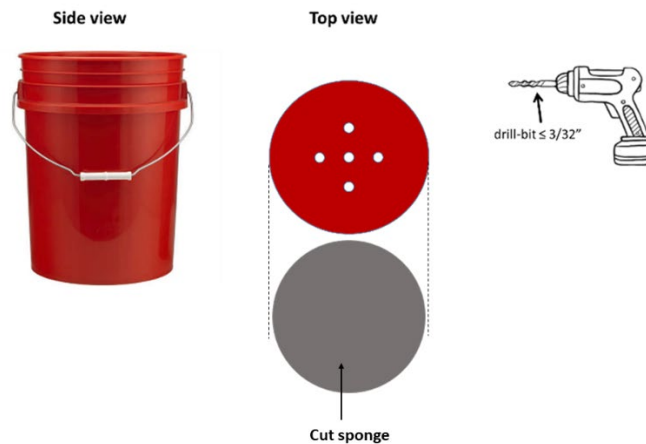

Figure 2. Making five holes at the bottom of the bucket with drill and drill bit and cutting a sponge the same diameter as the bottom of the bucket.
- Using a drill and drill bit size of $3/32$ inch or smaller, drill up to five holes at the bottom of 5-gallon buckets (Figure 2). To slow the speed at which water leaves the bucket and infiltrates into the soil, add 1 inch of playground sand to the bucket or prepare a circular sponge piece by cutting from the sheet of sponge foam into the inner diameter of the bottom of the bucket (Figure 2).